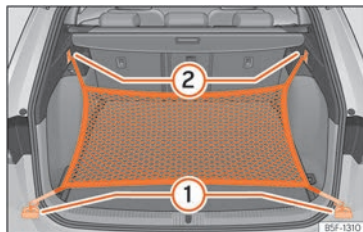

Fig. 189 In the luggage compartment: rings ① and hooks ② for attaching the net bag.
- Secure the short net hooks to the fastening rings >>> Fig. 189 ① >>> ⚠. The bag zip should be facing upwards.
- Secure the straps in the bag hooks ②.